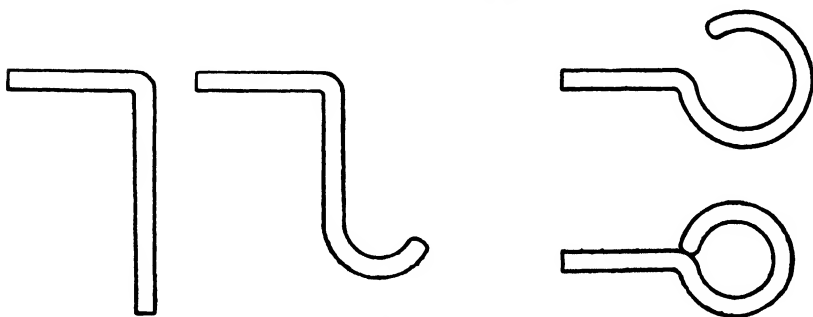

FIG. 20
2. Extend the end of the stock that is to form the eye over the tip of the anvil horn and bend it until it is approximately the curvature of the finished eye. Fig. 20.